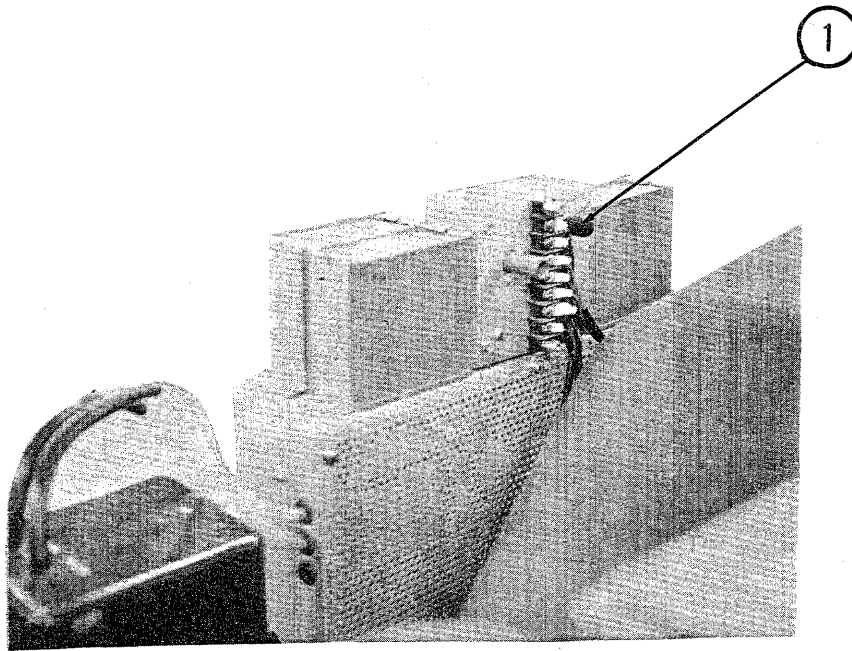

Figure 4-5. Focus and Astigmatism Correction Amplifier
7. Connect the probe to the astigmatism input of the high-voltage divider (1A3TB1-2). Set the FOCUS and ASTIGMATISM operator controls at the center of their travel. Adjust R05 (1 of figure 4-5) to obtain the best over-all focus and astigmatism results. This adjustment varies, depending upon the over-all dynamic characteristics of the CRT, and will be between 0 and 65 volts AC PP.